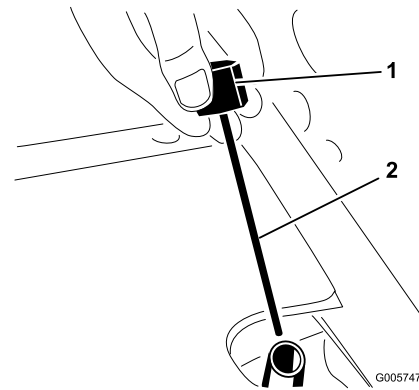

Figure 30
2. Unscrew dipstick cap (Figure 30) from the filler neck and wipe it with a clean rag. Screw dipstick cap finger tight onto filler neck. Unscrew the dipstick and check level of fluid. If level is not within 1/2 inch (13 mm) from the groove in the dipstick (Figure 30), add enough fluid to raise level to groove mark. Do not overfill by more than 1/2 inch (13 mm) above groove.